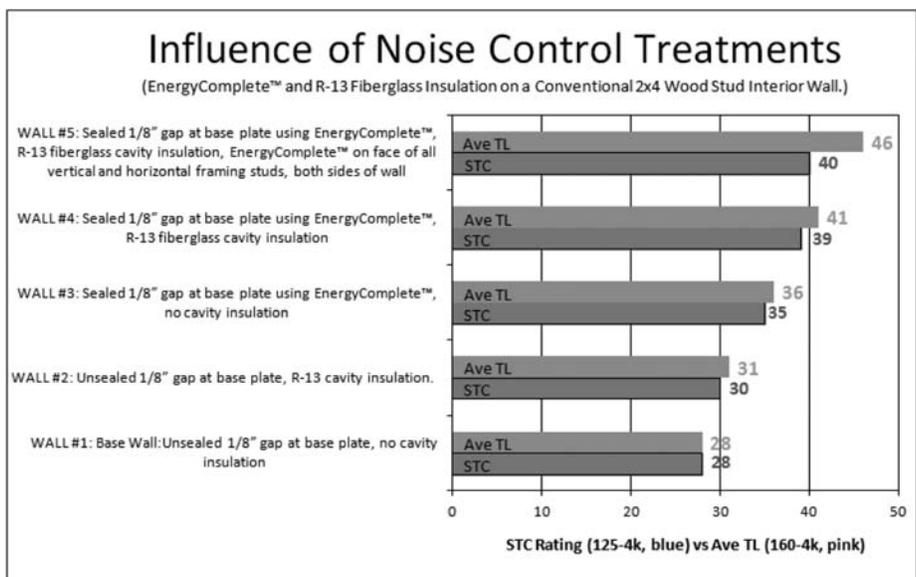

Figure 4: Influence of Noise Control Treatments
Figure 4 illustrates the STC and Average TL performance ratings for each of the five (5) interior 2x4 wall conditions tested.
As noted earlier, one of the most important first steps in controlling the intrusion of airborne noise through walls is making sure air gaps and penetrations are air sealed. In Figure 4, WALL #1,
We can also see from Figure 4, WALL #3, that sealing the 1/8" air gap at its base with EnergyComplete™ significantly improved the overall noise control performance of the wall from STC/Ave TL-28 (WALL #1) to STC-35 and Ave TL-36, a substantial 8 dB (Ave TL) reduction in noise level by sealing the air gap at the base plate alone. An 8 dB decrease in noise level is considered clearly noticeable to the human ear and is equivalent to a 40% reduction in the perceived noise level.
ceilings without sealing open air gaps or penetrations can limit the beneficial attributes of the insulation. As seen in Figure 4, WALL #2, installing cavity insulation without first sealing air gaps and penetrations can compromise both the STC and the Ave TL performance ratings. An improvement of only 2 STC points and an Ave TL improvement of only 3 dB was achieved as compared to the untreated Wall #1 assembly. Remember, a 3 dB change is considered barely perceptible.
However, after the 1/8" air gap was sealed using EnergyComplete™ and R-13 cavity insulation installed, as shown in Figure 4, WALL #4, a significant improvement of 11 STC points and 13 Ave TL dB was achieved as compared to that of the untreated WALL #1. A 13 dB noise level reduction is equivalent to an impressive 58% reduction in the perceived noise level, 7 dB from properly sealing the wall for air leakage and an additional 5 dB from adding cavity insulation.
The noise control test results (Figure 4, WALL #1-#4) discussed thus far has focused on the treatment of airborne sound paths through walls via air gaps and/or the wall cavity. To
WALL #5 of Figure 4 illustrates the additional noise control improvements achieved from applying a 3/8” bead of EnergyComplete™ along both faces of the 2x4 wood framing members. Note that the STC performance only changes by 1 STC point, as compared to WALL #4, while the Ave TL rating gains a full 5 dB. The variation between these two rating systems is primarily due to how each rating system is calculated. STC ratings can prematurely be held down based on how the TL measured results are distributed relative to the “STC Contour”. Once the movement of the STC rating becomes limited (often